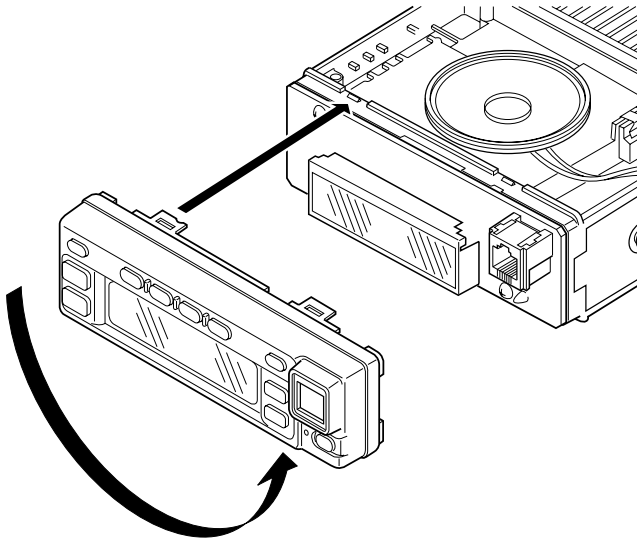

Fig. 16
- Rotate the control panel 180 degrees and mount it on the transceiver. Refit the two halves of the case to complete installation. (Fig. 16)